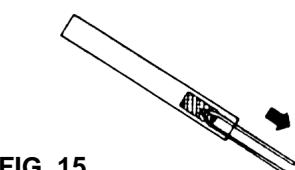

FIG. 15
5. Remove the old filter and replace it with a new one (fig. 15 & 16).